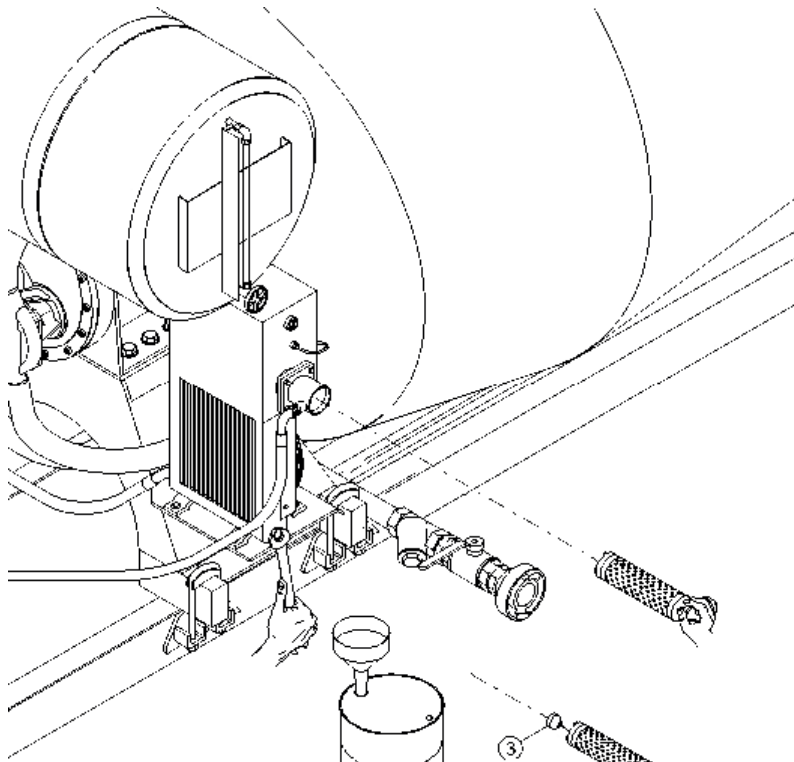

Figure 20: Replacing oil and filter
- Rescrew the plug of the exhaust pipe of the heat exchanger (figure 20).
- Take out the nut (3 figure 20) screwed on one side of the terminal of the filter sustaining rod and replace the cartridge (2 figure 20) with a new one;
- Reassemble it checking that the filter is set in its proper seat; if necessary replace the sealing O-ring (4 figure 20);